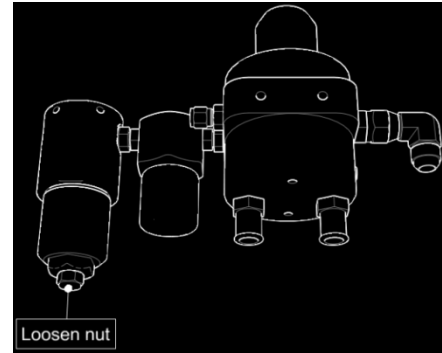

Figure 25 Drain Plug (Hex Cap)
2. Slowly remove the drain plug (hex cap) with an 11/16-in. wrench. See Figure 25.